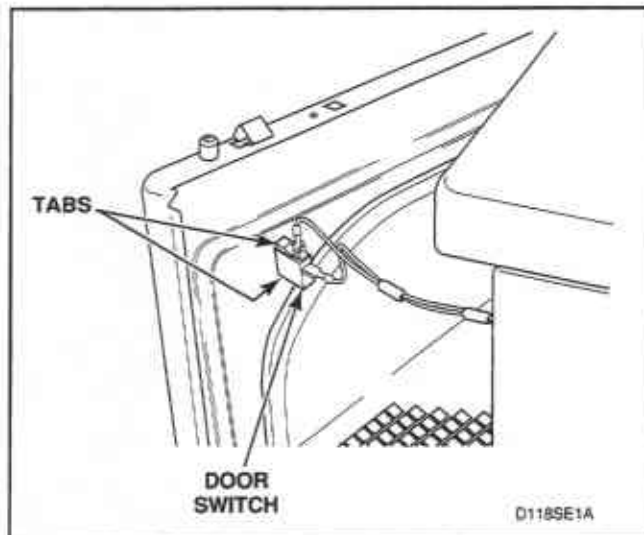

Figure 17
- Disconnect wires from door switch, *Figure 17*.
- Depress tabs on top and bottom of switch and push out of front panel, *Figure 17*.
- Depress tabs on top and bottom of catch and push out of front panel, *Figure 17*.